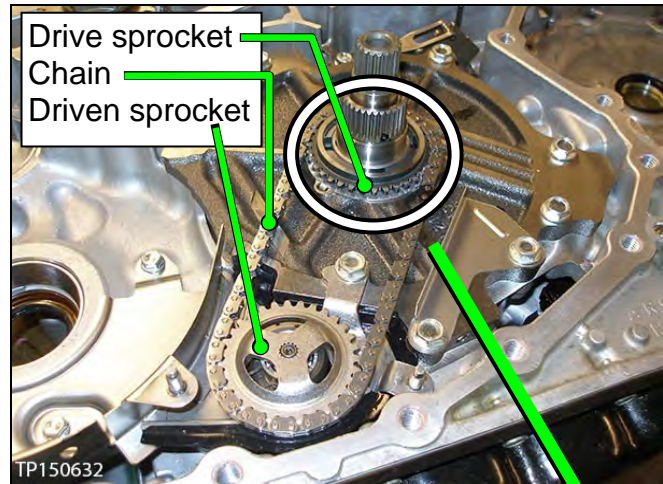

Figure 8I
9. Install the drive sprocket, driven sprocket, and chain as an assembly (Figure 8I).
- Make sure the raised edge (wider edge) on the drive sprocket is facing up (Figure 8I).